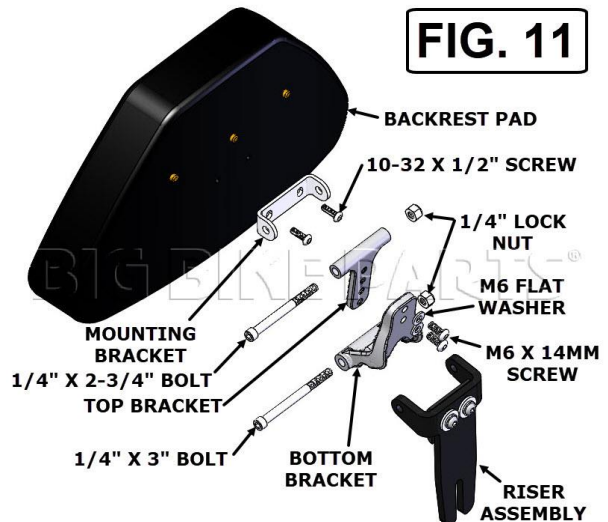

FIG. 11
12. ASSEMBLE THE RISER TO THE REST OF THE UPPER BACKREST AS SHOWN IN FIG. 11.